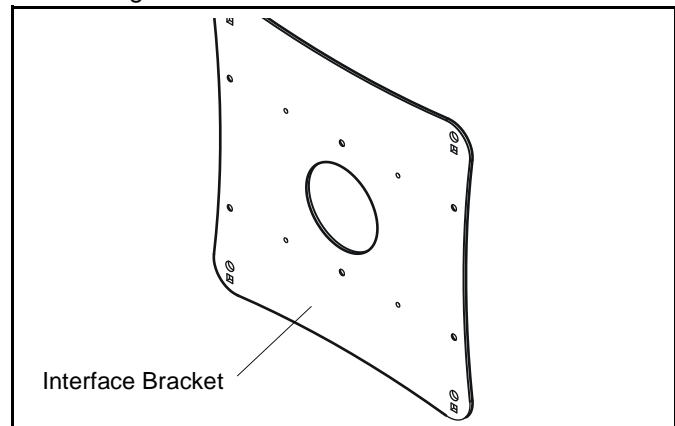

Figure 3
5. If an interface bracket was used in this installation, remove the screws attaching the interface bracket to the display. Replace with the same size button head security screws included in this kit (see Figure 3).